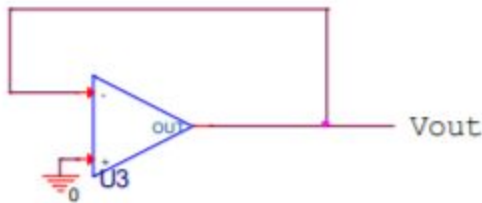

Figure 3.1 Circuit For Part 3 of Lab
- a. Offset voltage is around $10\text{ }\mu\text{V}$. Bias Current is 10 nA . Bias current creates an offset proportional to the value of the resistors. Given that the circuit shown below in figure 3.1 has virtually no resistance in a practical application, the offset created is negligible.